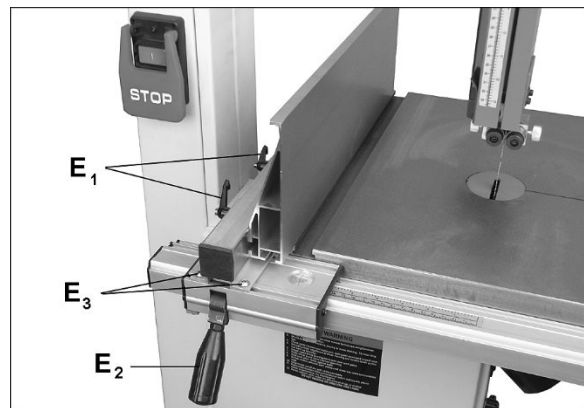

Figure 5-19
5. If adjustment is needed, use the set screws which are located next to the fence body screws (E3, Figure 5-19). Loosen the four screws (E3) and turn any of the four adjoining set screws in or out as needed, until fence is flat against blade.
7. Loosen handles (E1, Figure 5-19) and slide fence onto bar. Tighten handles (E1).
8. Slide fence against edge of miter slot (Figure 5-19) and push down handle (E2) to lock position. The fence should align parallel to miter slot along entire length of fence.
9. If adjustment is needed, loosen four screws (E3, Figure 5-19) and shift fence body as needed to align fence with miter slot.
13. Verify that fence, top-to-bottom, lies flat against side of blade. If it does not, use the set screws which are located next to the fence body screws (E3, Figure 5-19). Loosen the four screws (E3) and turn any of the four adjoining set screws in or out as needed, until fence is flat against blade.
4. If adjustment is needed, loosen the four screws (E3, Figure 5-19) on the fence body and nudge fence body left or right along the tracks in the fence guide, until cursor aligns with zero when fence is against blade.